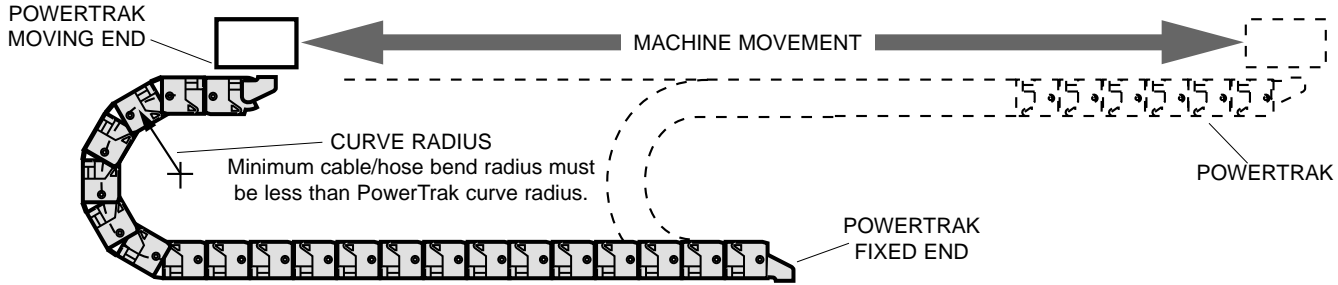

Figure 1
1. Select cable or hose with minimum bend radius (MBR) less than curve radius of PowerTrak. Follow cable or hose manufacturer's specifications and guidelines. See Figure 1.